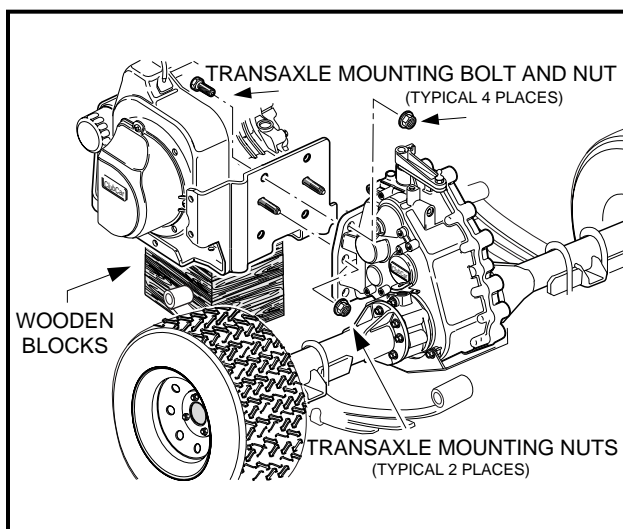

Figure 16-93 Transaxle Mounting
3. Position the transaxle mounting plate on the two mounting studs at the rear of the engine, and then install the two mounting nuts (**Figure 16-93, Page 16-39**).
5. Tighten the four corner nuts (with bolts) to 30 ft-lb (40.7 N-m). Tighten the two center nuts (on the studs) to 17 ft-lb (23.1 N-m) (**Figure 16-93, Page 16-39**).